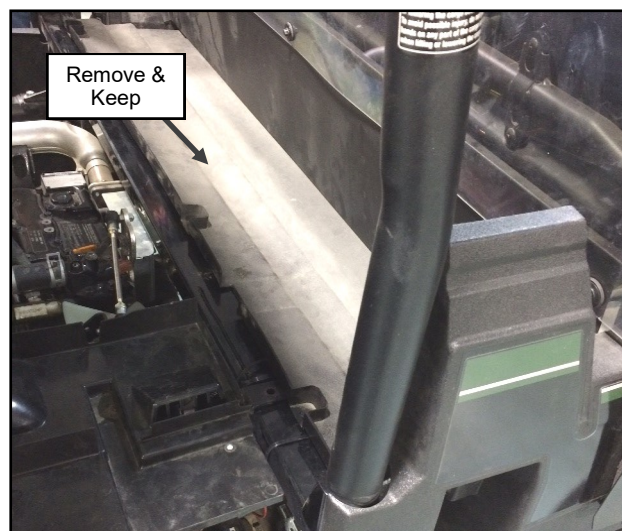

Fig. 2.14 (Remove Seat Back Cover)
**2.14** Remove and set aside seat back cover with its (6) Plastic Rivets & (3) Screws per fig. 2.14.